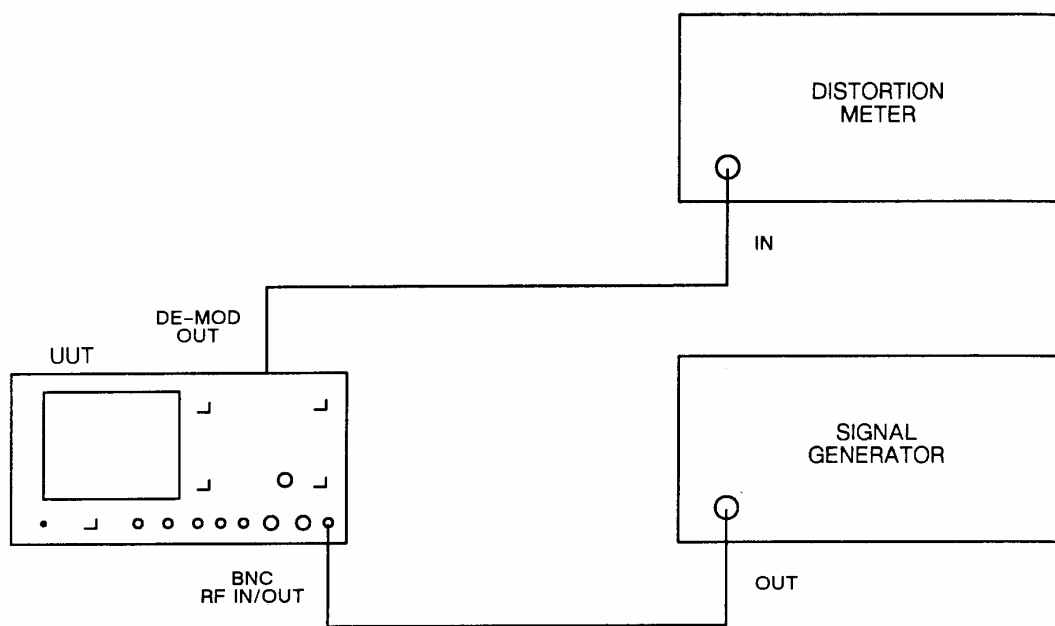

Fig. 5-1-3 Test equipment connections for modulation meter demodulation distortion performance checks
- (1) Connect the equipment as shown in Fig. 5-1-3.